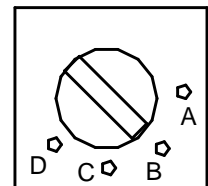

Figure 1. Illustration of S1 Switch Positions
3. Using a small flat-head screw driver, set the position of the S1 Switch on the LED Driver, per the setting shown in Table 1 (Refer to Figure 1 for illustration of S1 Switch positions).